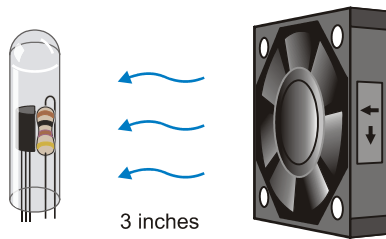

Figure 6-19
- √ Place the fan approximately 3 inches from the incubator so the fan will blow towards the incubator, as shown in Figure 6-19. (The fan is facing the opposite direction than it was in previous chapters.)